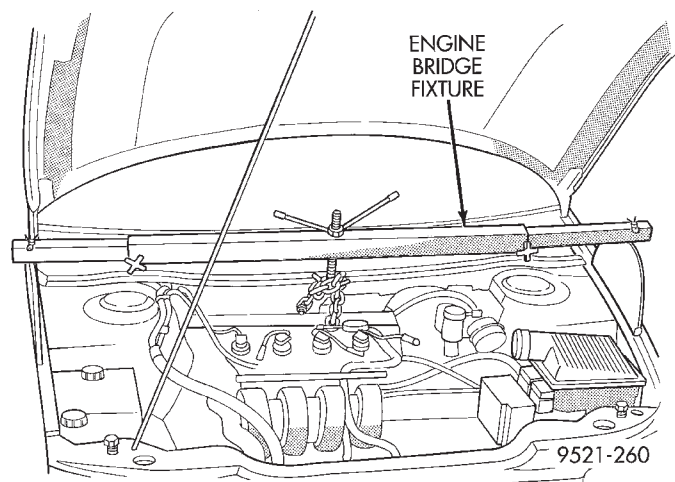

Fig. 45 Engine Support Fixture (Typical)
- (8) Install engine support fixture and support engine (Fig. 45).